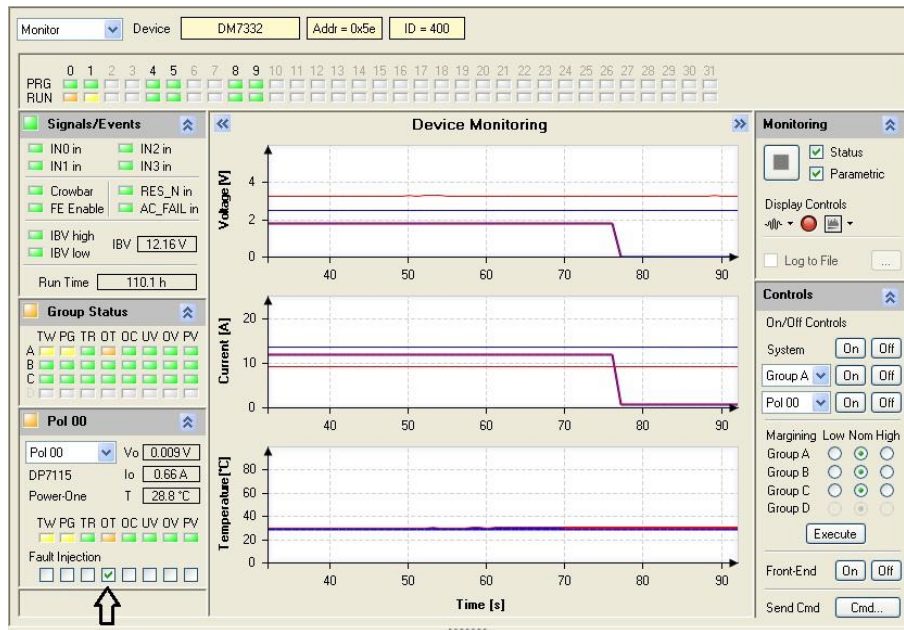

Figure 48. Example Overtemp Fault Injection in the GUI
In Figure 48 we see the effects of injecting an Overtemp (OT) fault. Note that dPOL-0 shows an OT fault. dPOL-0 and -1 are in the same Group and fault propagation for the dPOL is to propagate to the group. dPOL -4 and above are in Groups B and C. Propagation is not enabled from Group A to B.